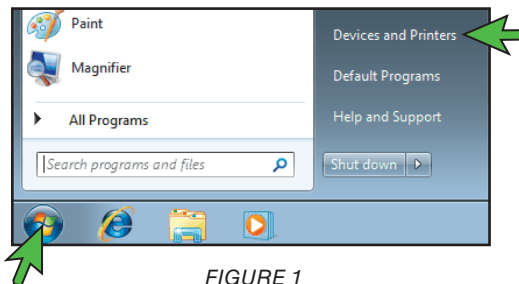

FIGURE 1
1. To view the PowerDriver-R configuration settings, click your start icon and select **Devices and Printers** (see *FIGURE 1*). If you are using an older version of WINDOWS, you will instead select **Printers and Faxes**.